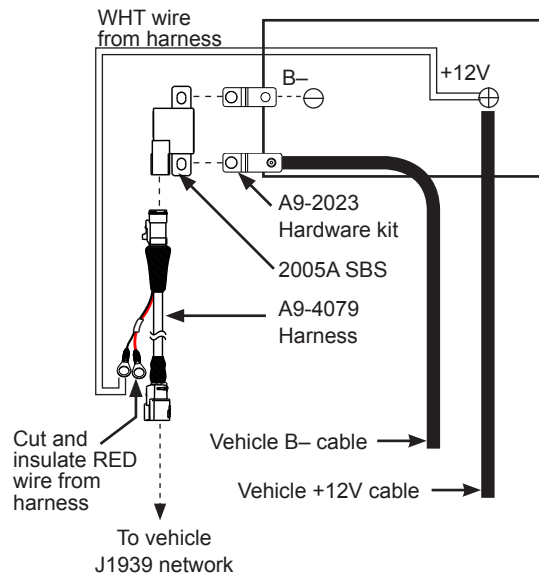

Figure 1: Typical 12V Installation
2. Connect C2005A battery-side terminal to battery negative post. If required, use optional mounting hardware kit (CEN P/N A9-2023, available separately) for flexible mounting options. Torque C2005A attaching hardware to 22.5 Nm/200 lb. in. and torque battery post hardware to battery manufacturer's specification. See Figures 1 and 2.
- 12V systems (Figure 1):